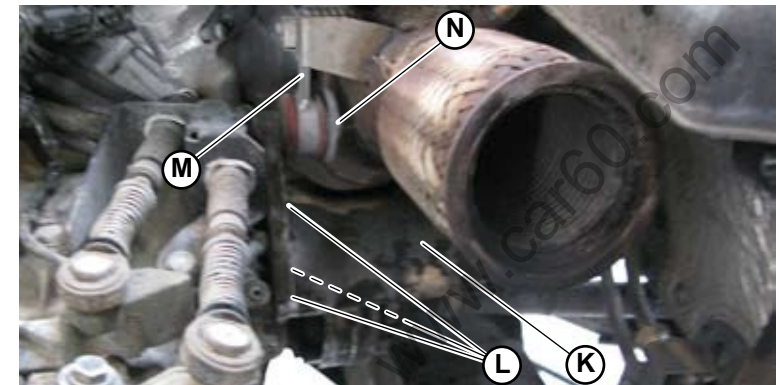

Fig.8
11. Position the joint bulkhead (**K-Fig.8**) on the right side between the axle shaft and the differential by tightening three screws (**L-Fig.8**).
12. Position the bracket (**M-Fig.8**) and tighten the rear differential gearbox assembly support screw (**N-Fig.8**).